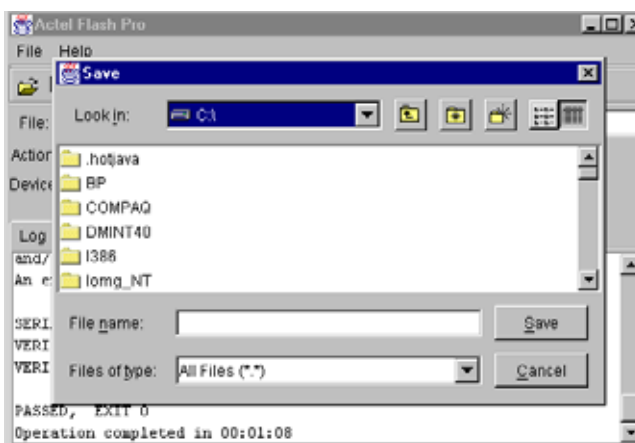

Figure 5-36. Save Dialog Box
1. From the File menu, click *Save Log*. The Save dialog box appears, as shown in Figure 5-36.